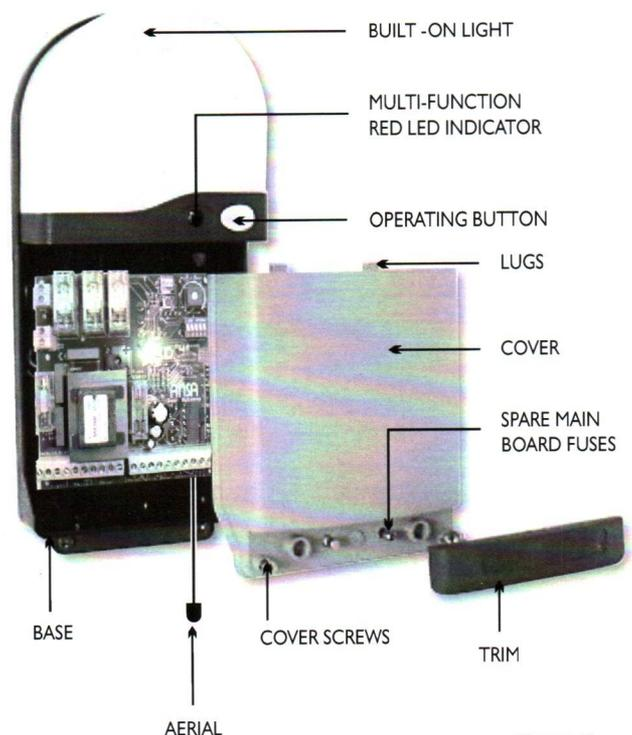

Figure 7
3.2 Fitting the enclosure - Refer to fig 7